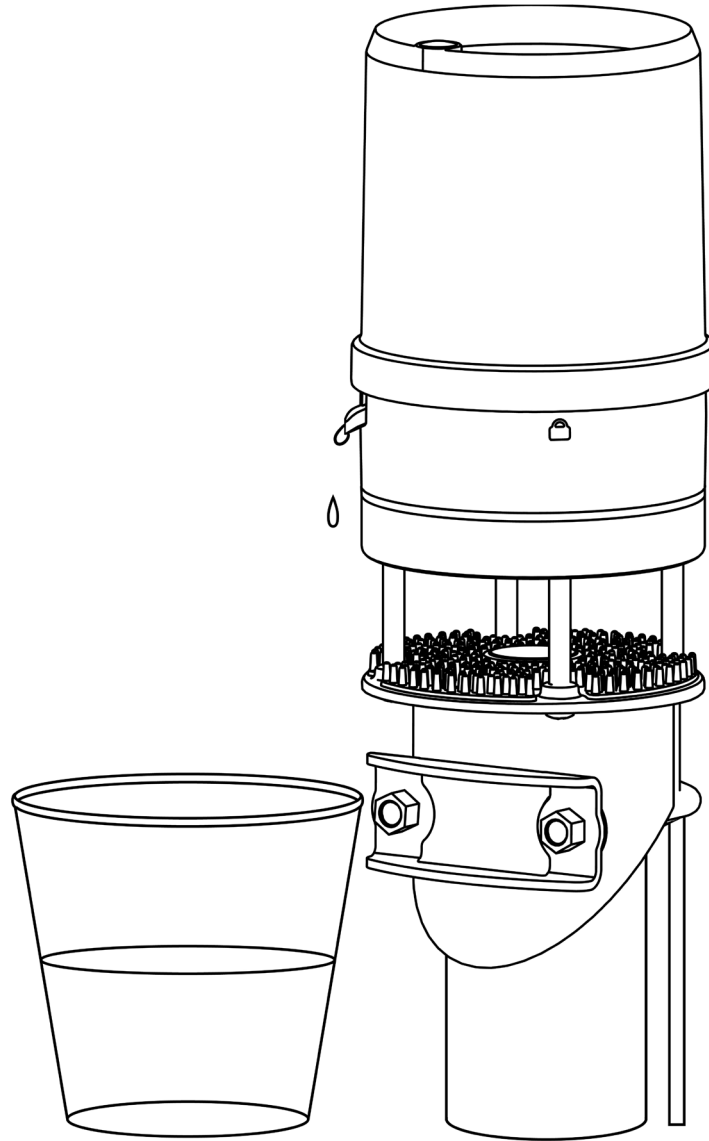

Figure 2. Setup with ATMOS 41, stand, and cup for collecting water exiting the spout
10. Put a cup/beaker under the spout of the drip counter outlet (Figure 2).